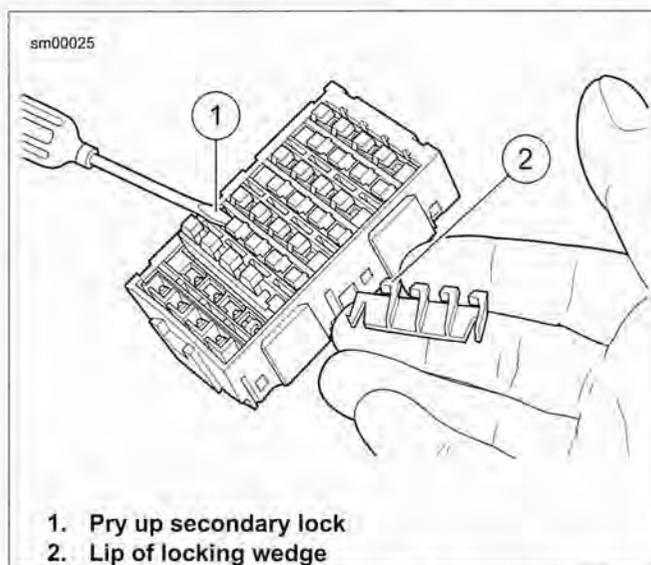

Figure A-8. Fuse Block: Remove Secondary Locks
1. See Figure A-8. To remove secondary locks, insert end of small flat blade screwdriver (1) under lip of locking wedge (2) and gently pry up secondary lock.